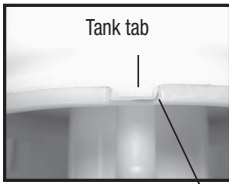

Figure 4
9. Reassemble backwards from step 7 thru 2, performing each step in reverse. Note: there is a notch/tab combination in the pump assembly/tank to be used for alignment (fig. 4).